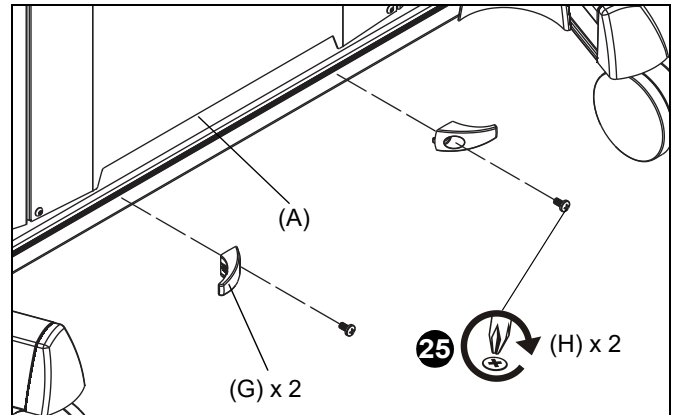

Figure 14
26. Use two 1/4-20 x 1/2" Phillips pan machine screws (H) to attach two cable hooks (G) to bottom of column assembly (A). (See Figure 14)